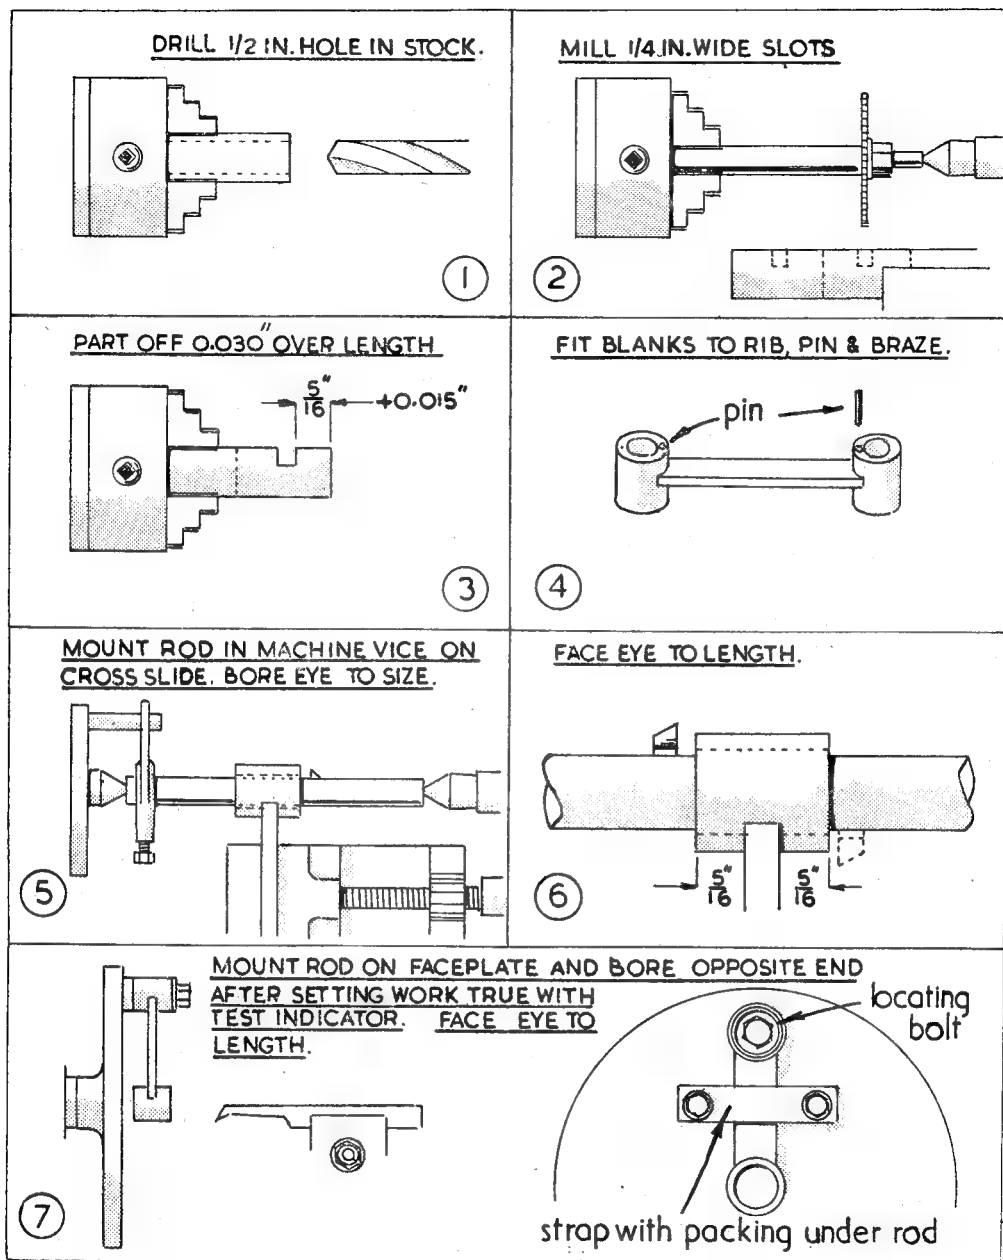
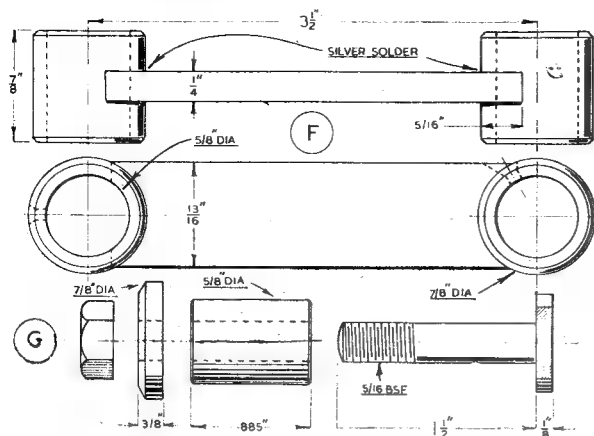
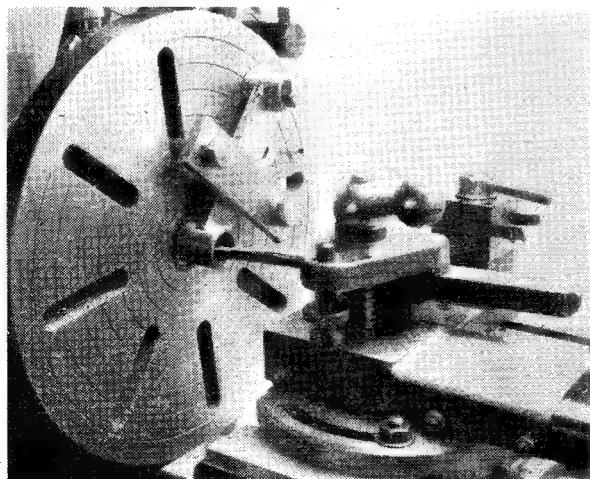

Fig. 11. Sequence of operations for machining the connecting-rod
Fig. 10. Details of the connecting-rod and small-end bolt
Fig. 12. Machining the connecting-rod of the slotting attachment. For the sake of clarity, the balance weight has been removed from the faceplate
The small-end bolt (G) illustrated in Fig. 10 is of similar construction to the crankpin and calls for no special comment except to repeat the advice about the cast-iron bush already given, namely, make sure that both ends of this part are square with the bore.
The part has already been illustrated in Fig. 7 where it is seen with the driver plate. The details of the connecting-rod are given in the illustration (Fig. 10) and the series of operations for making the component are depicted in Fig. 11.
been tested and found to be a firm fit in the slots previously milled in the blanks. The blanks and the body are then assembled by pressing them together; this part of the work can very well be carried out in a vice, provided that packings are used to protect the work. After assembling the parts, a hole is drilled, as illustrated in Fig. 11, Operation 4, to take a close-fitting pin. This will
When the brazing has been completed, the connecting-rod is set up in a machine vice secured to the lathe cross-slide so that one eye of the rod can be bored to size by means of a boring bar running between centres, as depicted diagrammatically in Fig. 11, Operation 5.
Following this operation, and at the same setting, the connecting-rod eye is faced to length, as seen in the sketch, Fig. 11, Operation 6. As will be observed, a flat-faced tool is made to sweep the end of the eye, thus machining it to the correct length of $\frac{5}{16}$ in. as measured from the face of the rib.
The component is, therefore, set up on the faceplate, as depicted diagrammatically in Fig. 11, Operation 7, and as seen also in the illustration (Fig. 12) where it will be observed that a locating-bolt is passed through the machined eye of the connecting-rod. This bolt will secure the rod at the correct radius, but, of course, cannot be relied upon to hold the work firmly against the stresses imposed by the actual machining operations. For this reason, a strap is fastened over the body to hold the connecting-rod firmly against packing placed under the body. In order to ensure that this packing does not throw the work out of alignment, a dial test indicator should be applied to the face of the eye; any movement of the work, or the packing is put in place or the strap is tightened, will then be recorded.